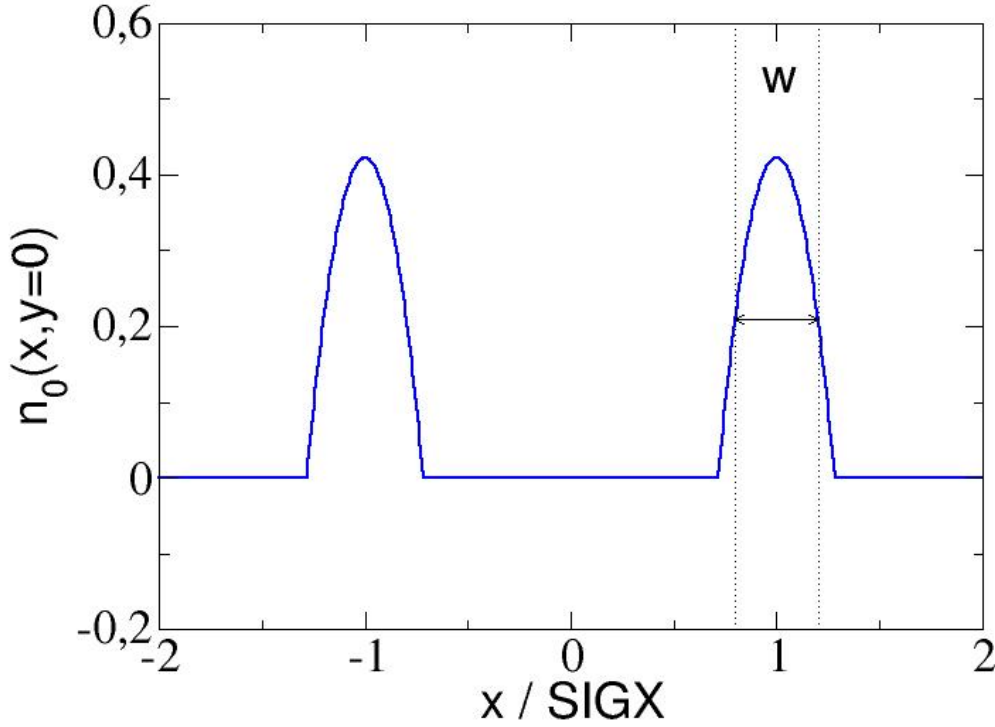

Figure 10.3: Hollow parabolic shape of radial density for beam-beam lens.
- BBSHAPE=3: hollow-parabolic shape (see fig.10.3). **SIGX**, **SIGY** are the distances from the centre to the maximum of the parabolic density profile in horizontal and vertical directions. Only circular opposite beam is possible, *i.e.* in the calculations $\text{SIGX}' = \text{SIGY}' = (\text{SIGX} + \text{SIGY})/2$ is used, if **SIGX** and **SIGY** have different values. **WIDTH** denotes the full width at half maximum of the parabolic density